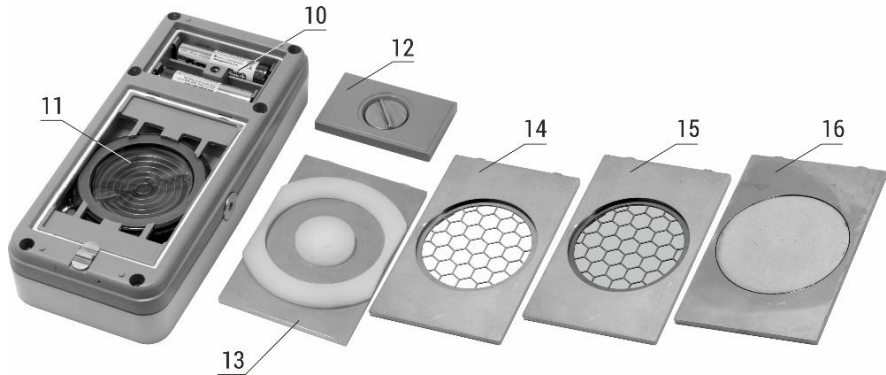

Figure 1.3 – Appearance of the radiometer (bottom view)
The lower cover (2) of the body (Figure 1.3) contains the battery compartment (10) with two galvanic cells installed and a Geiger-Mueller BETA-2-1 counter (11) sensitive to alpha, beta and gamma radiation. The counter is fastened to the lower cover and closed from the inside of the body with a plastic holder, which is fixed with six screws. From the outside, the detector is closed with one of the covers (13), (14), (15) or (16). The battery compartment is closed with cover (12), which is fixed with the original screw. The polarity signs are inscribed on the bottom of the battery compartment for proper insertion of batteries.